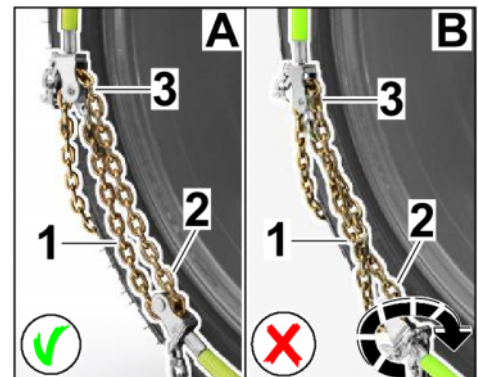

Figure 7
2.2.2 Check that the tensioning chain at the tensioning point and deflection roller (end of spring steel clip on inside of wheel) (⇒ *Figure 7-A-*) is running parallel and is **NOT** twisted (⇒ *Figure 7-B-*).
Turn deflection roller for spring steel clip if necessary (⇒ *Figure 7-Arrow-*.)